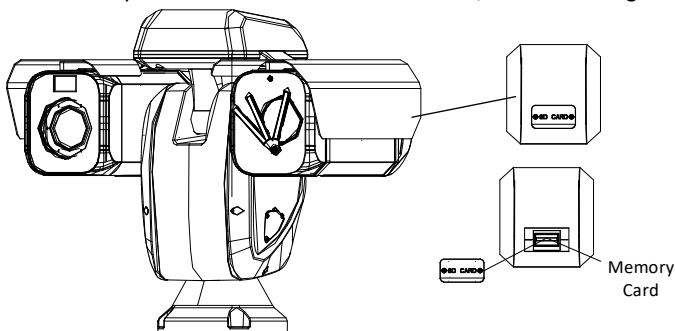

Figure 3-2 Memory Card Installation
2. Insert the memory card into the card slot until it clicks, as shown in Figure 3-2.